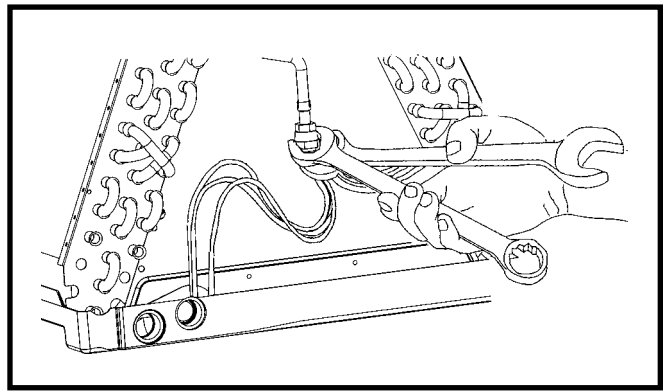

Figure 6. Loosening of Nut & Distributor Body
5. Using two wrenches, loosen the nut and distributor body as shown in Figure 6. Turn the assembly nut counter-clockwise until the orifice body halves are separated.